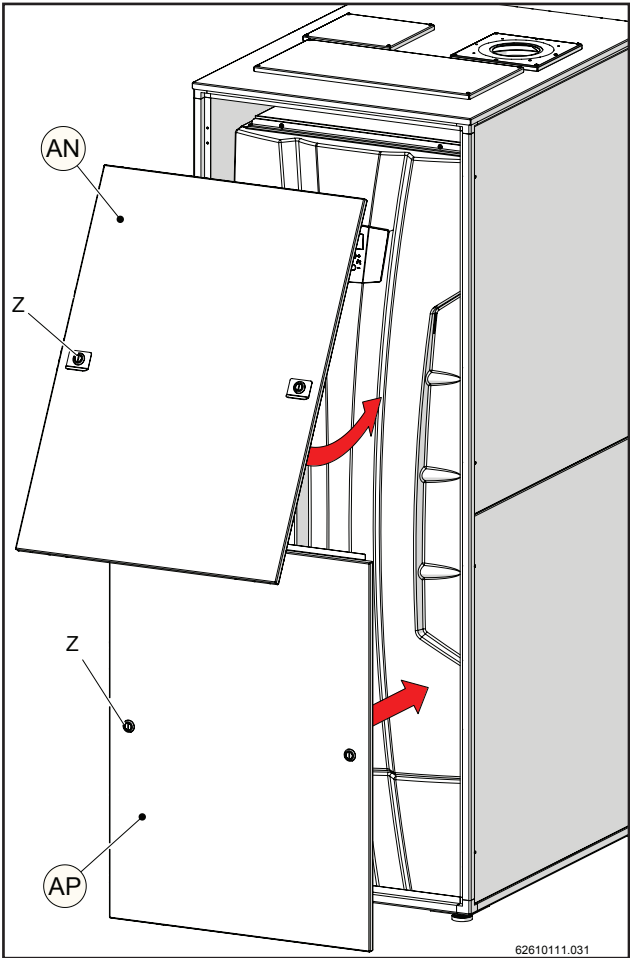
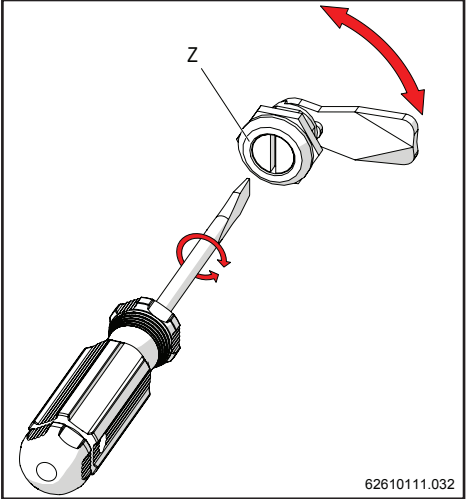

Figure 12-28
Figure 12-30
14.- Place the front coverings (AP) (before) and (AN) (after), in the way shown in figures 12-28 and 12-29. Fasten them to the structure by adjusting locks "Z" with a flat head screwdriver (figure 12-30).